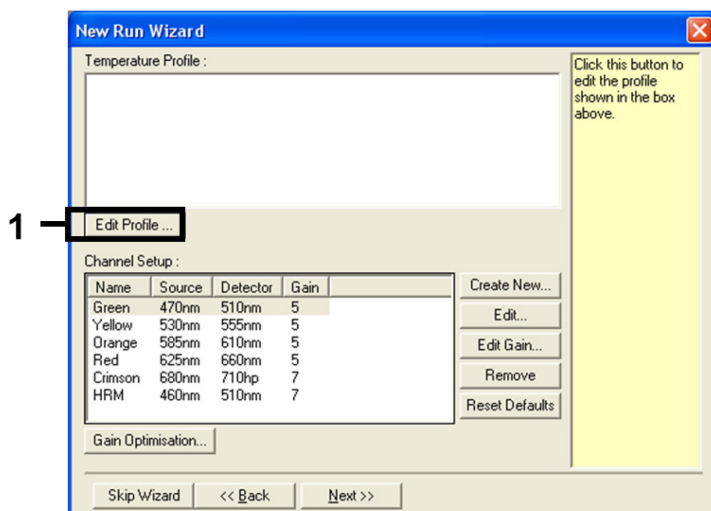

Figure 3. Editing the profile.
5. Click “Edit Profile” in the “New Run Wizard” dialog box (Figure 3) and program the run parameters according to the following steps.